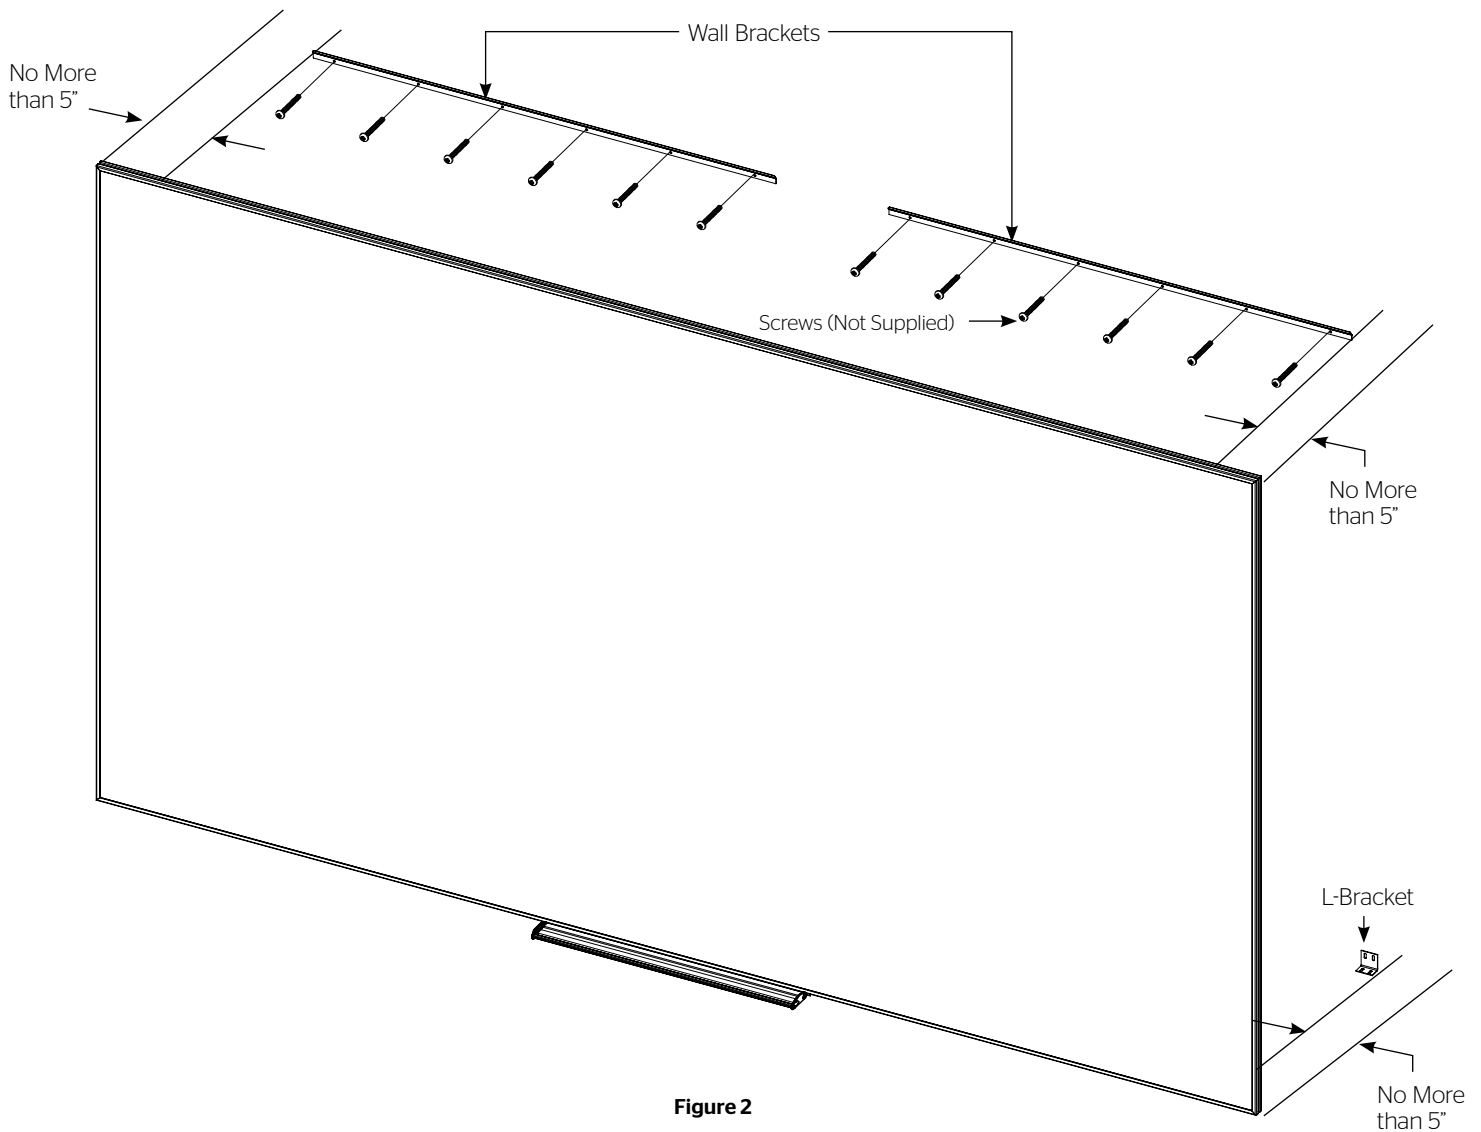

Figure 2
NOTE: The screen is shipped with two wall brackets. Screens in widths of 88" and below receive (2) 28" wall brackets. Screens above 88" in width receive (2) 44" wall brackets. Use appropriate mounting hardware for the wall type and to accommodate for the screen's hanging weight (Figure 2).
1. Secure the two wall brackets to wall studs at the desired height. The outside edge of each wall bracket must be no greater than 5" away from the left and right edges of the frame. You will need at least 1" clearance above the drilled holes to hang the screen (Figure 2).
2. To install the (2) L-brackets, you must measure the overall height of the screen frame and subtract 1 $\frac{1}{2}$ ". Using that dimension, measure down from the top edge of the wall brackets and mark the wall for two screw holes. The outside edge of each L-bracket must be no greater than 5" away from the left and right edges of the screen frame (Figure 2).